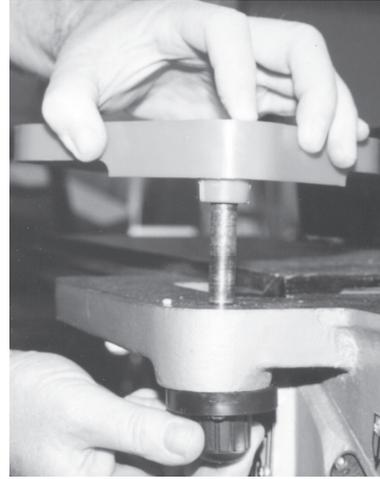

Figure 4
Step 1) Inside of the Spring Knob (#37) there is a Spring (#36) which returns the Guard to its position above the Cutterhead after a cut. To create tension in the Spring, turn the Spring Knob (#37) before inserting the post. Insert the Post of the Cutterhead Guard (#32) down through the hole in the Infeed Table (#33)-see Figure 4. When inserting the Post, make sure that the Spring (#36) is engaged in the slot at the end of the Post. The tension on the Spring (#36) can be changed by removing the Guard and turning the Spring Knob (#37).